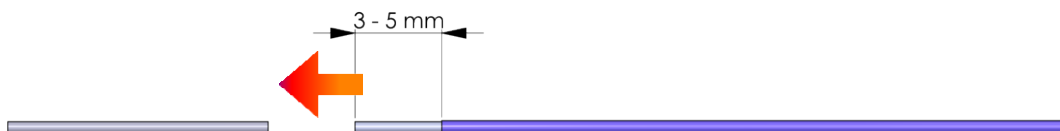

Figure 13: Cleaving the distal end
- Create a cleave at the score by gently pulling the distal tip from the laser fibre in the direction of the red arrow (axial direction of the laser fibre note Figure 13). The cleave at the distal tip is a perfect optical window and improves laser beam delivery.